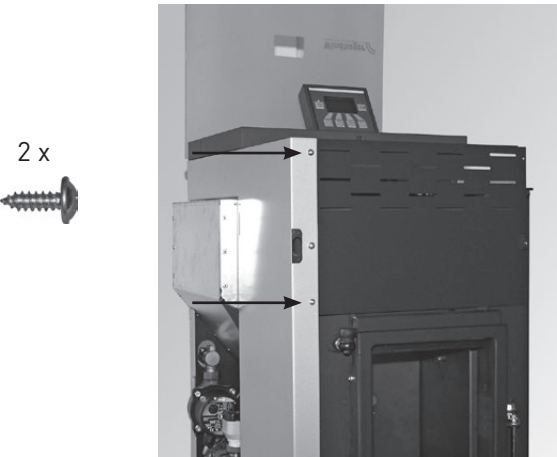

Fig. 32 Screwing the front cover plate on at the front at 2 points
- Secure the “front cover plate” (part 3) onto the side panel using 2 screws – Fig. 32.